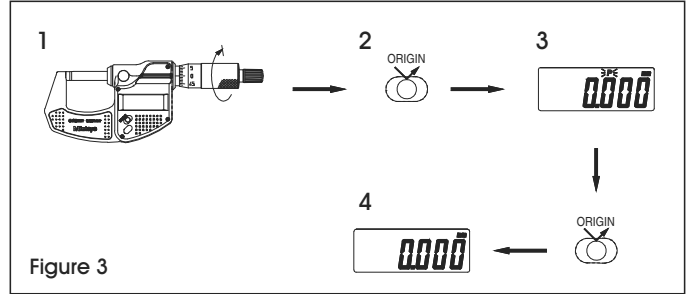

Figure 3
- Before measuring, check the origin (zero point) according to Figure 3.
(See Figure 3)